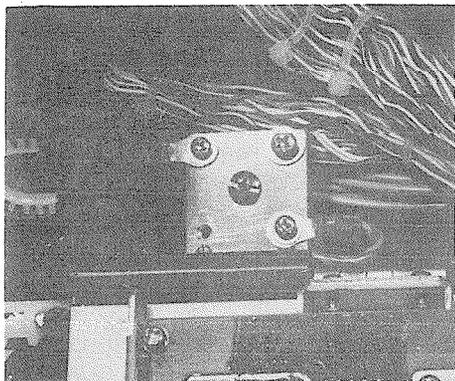

FIGURE 2— GROUND CONNECTION BLOCK
04.51 The PERCEPTION system requires a solid earth ground on the ground connection block located behind the connector panel at the lower rear of the DCEC (Figure 2). Failure to provide such a ground may lead to confusing trouble symptoms in the system and, in extreme cases, circuit board failure.